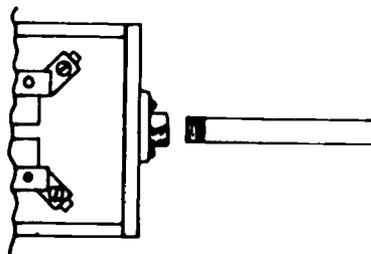

FIGURE 1.
- B. Screw threaded end of raceway into hub (Figure 1)